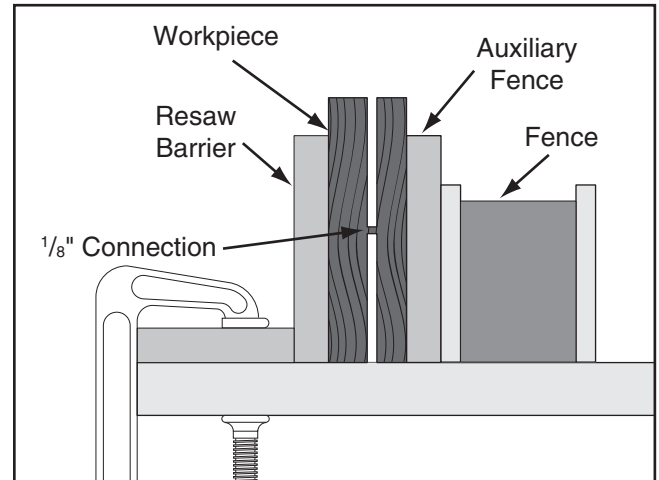

Figure 62. Ideal completed resaw cut.
7. Raise the blade approximately an inch, or close to half the height of the workpiece (**Figure 62**), whichever is less.
10. Repeat **Steps 7–9** until the blade is close to half of the height of the board to be resawn. The ideal completed resaw cut will leave an $\frac{1}{8}$ " connection when the resawing is complete as shown in **Figure 62**. Leaving an $\frac{1}{8}$ " connection will reduce the risk of kickback.